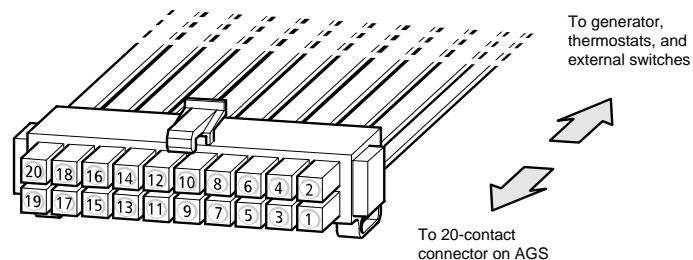

Figure 6 AGS Wiring Harness
**Wire Identification** Each wire on the harness is identified by a number and a color. The wire numbers are shown in Figure 6 and their colors and functions are described in the next table.